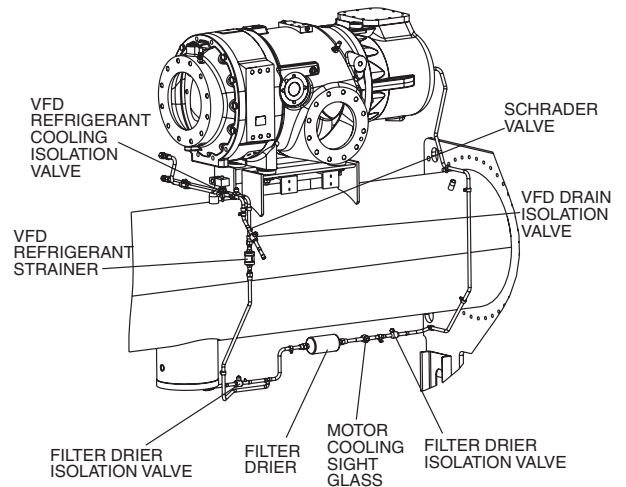

Fig. 22 — VFD Refrigerant Isolation Valves (Q,R Compressors Only)
1. For Q and R compressors, close the 2 filter drier isolation valves (Fig. 22) and the 2 VFD isolation valves. Isolate the refrigerant charge into the condenser to prevent a refrigerant leak if one of the motor terminals is accidentally damaged during VFD removal or installation. For Q and R compressors, evacuate the VFD coldplate through the Schrader valve (Fig. 22) on the VFD drain isolation valve.